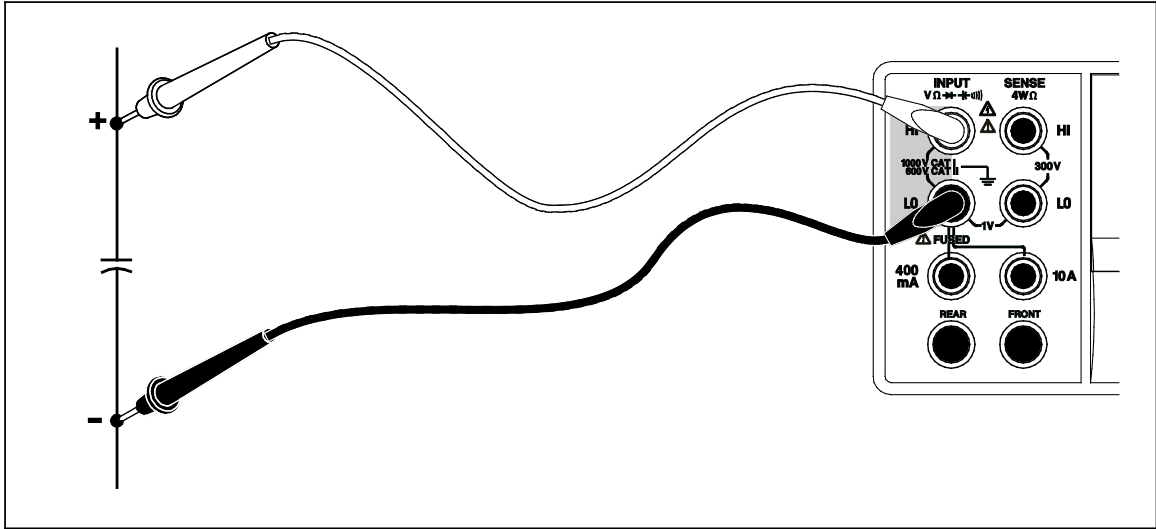

Figure 4-6. Measuring Capacitance
- Connect the Meter's test leads as shown in Figure 4-6.